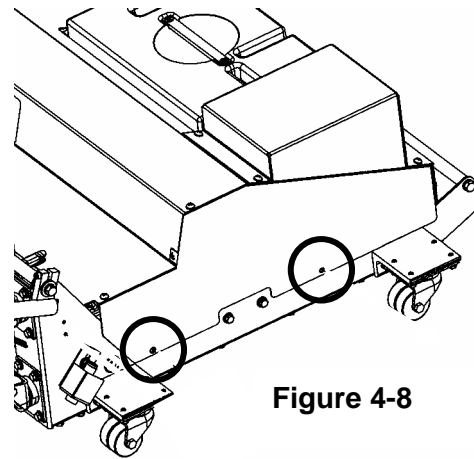

Figure 4-8
1. Remove the screws on each side of the hood, as shown in Figure 4-8, and lift the hood off the frame. Set aside the screws.